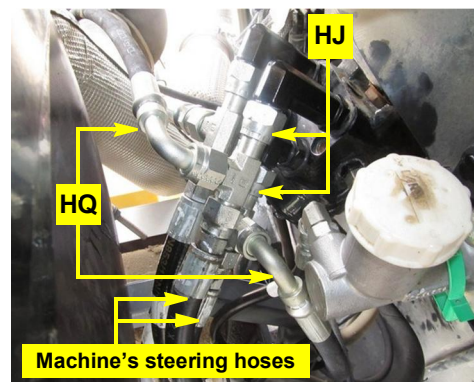

Figure 7b: Steering hoses connected to run-tees
Disconnect the machine's steering hoses, install run-tees **HJ** (lower toward the machine's left side, upper toward the front—see note above) and reconnect the machine's hoses to the open 'T' end of each run-tee (Figure 7a inset and Figure 7b).
- b. Connect the elbow ends of steering hoses **HQ** to the open stems of run-tees **HJ** (Figure 7b).